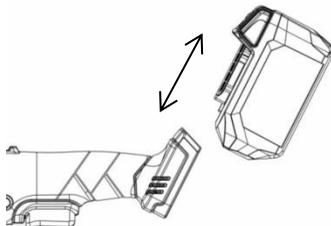

Fig. 2
TO REMOVE BATTERY PACK: Depress the battery release button (11), and pull battery pack out of tool. (see Fig. 2)
TO INSTALL BATTERY PACK: Align rails on the tool with the four tabs on the battery pack, and push battery pack onto tool until it locks in place. (see Fig. 2)